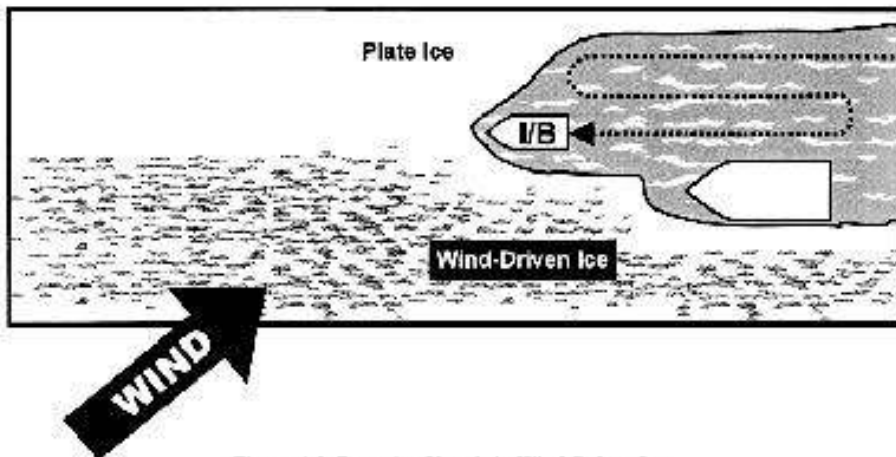

Figure 6-3 Escorting Vessels in Wind-Driven Ice
- 5 Vessels with Large Sail Area. When there are high winds, light tows and bulk carriers have difficulty maneuvering in the ice because of their large sail area. Also their lack of ballast often results in the screw and rudder being partially out of the water, further reducing usable horsepower and limiting maneuverability. Vessels being assisted in the ice should be asked to ballast down to as near a normal trim as possible. This will increase their efficiency in the ice. The added ballast will also help them to transit short stretches of ice of varying thicknesses. When escorting a vessel through wind-driven ice you may have to make several parallel tracks leeward of the main ice sheet. The ice from the windward track, which should blow faster than the main ice sheet, has somewhere to go. This will relieve the pressure for the escorted vessel (See **Figure 6-3**.)